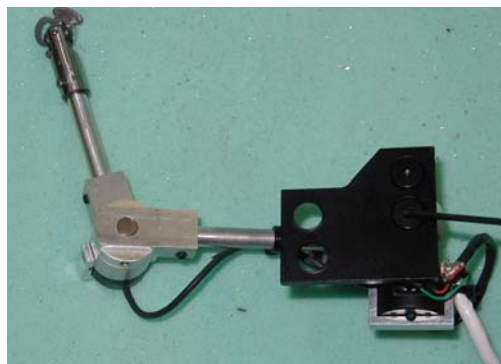

Figure 16.6- Lower Left Mounting Plate attached to Lower Left CRUX unit
4. Mount the Lower Left CRUX Unit (T1CXM004) to the Lower Left CRUX Mounting Bracket (T1CXM400) using two #10-24 x 3/8" FSHCS {1/8}, as shown in **Figure 16.6**. The lower left CRUX mounting bracket is stamped with the letter "L". When this piece is held so the stamp is readable, the piece is oriented correctly. The CRUX base should be mounted to the stamped side of the bracket. The flat heat bolts should fit into the countersunk holes in the mounting bracket. The base pot of the CRUX unit should be oriented so it points in the upward direction.